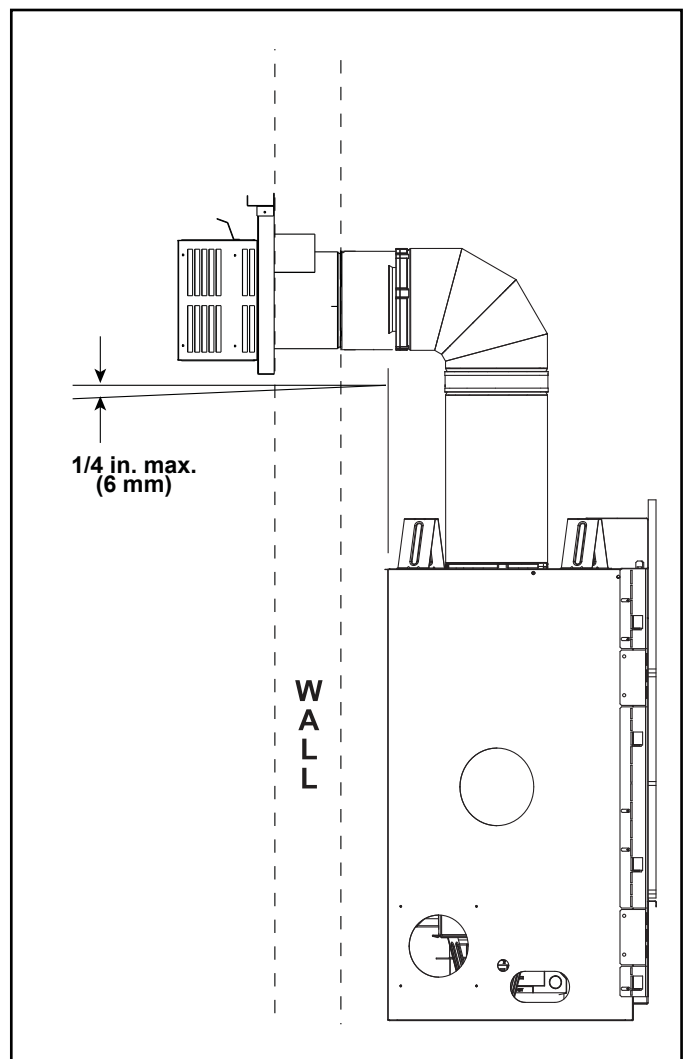

Figure 4.9 Vent Cap
- Horizontal termination cap should have a 1/4 inch downward slant to allow any moisture in cap to be released. See Figure 4.9.